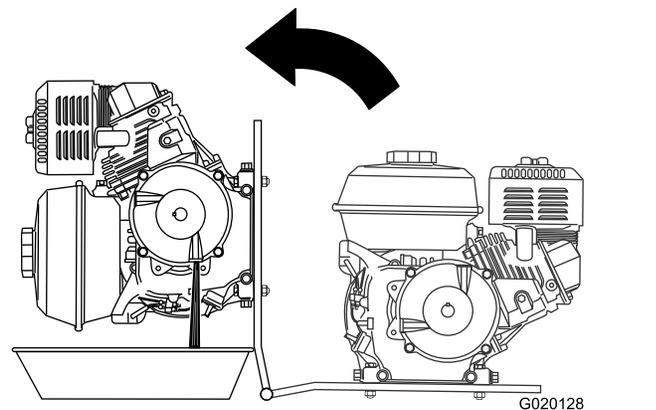

Figure 67
5. Align a drain pan to the hinge of the engine deck (Figure 67).
6. Rotate the engine on the hinge side of the engine deck, and drain the oil from the reduction case (Figure 67).